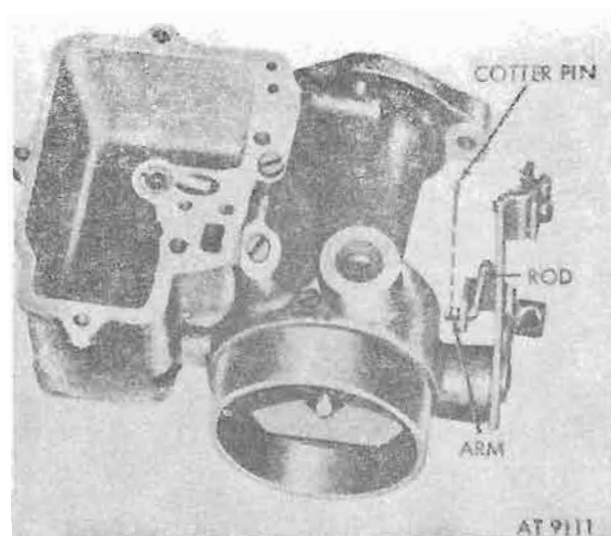

Figure 5-22. Choke arm and idle speed rod.
(2) Remove cotter pin from choke-idle speed rod and disconnect rod from choke arm (fig. 5-22).
until minimum light appears around plate. Tighten screws while holding choke in closed position and stake. Connect idle-speed rod (fig. 5-22) and secure with cotter pin. Fasten shaft lever with mounting screw and lockwasher (fig. 5-21).